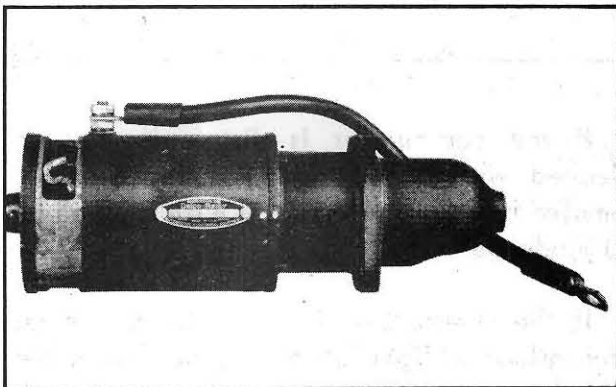

Fig. 178
The starting motor on the Ferguson TO-20 and TO-30 tractors is a Delco-Remy motor with a Bendix Drive, see Fig. 178. The motor is a 4-pole, 4-field, 6-volt unit with a clockwise rotation when viewed from the drive end. The armature shaft rotates in two oilless bushings, one at the commutator end and one in the end of the drive housing. The Bendix Drive is keyed to the armature shaft and located by a screw pin. The pinion is mounted on a threaded sleeve in such a way that when the shaft revolves, the threaded sleeve turns in the gear, causing the gear to move along the shaft and mesh with the teeth of the flywheel. As the engine starts to run under its own power, the flywheel drives the Bendix gear at a higher speed than the threaded sleeve is revolving, causing the gear to move
3. Mark the drive housing and the motor housing with a chisel or center punch to show the correct position for replacing, see Fig.178.